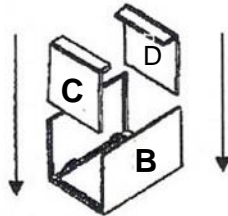
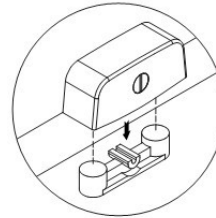

Figure 4
Figure 5
3. **Installing the Top and Bottom:** Gently spread side panels and insert top (D) and bottom (C) into grooves of side panel (B) until they touch the face frame (A) (Figure 4). Align them and lock each cam (Figure 5).